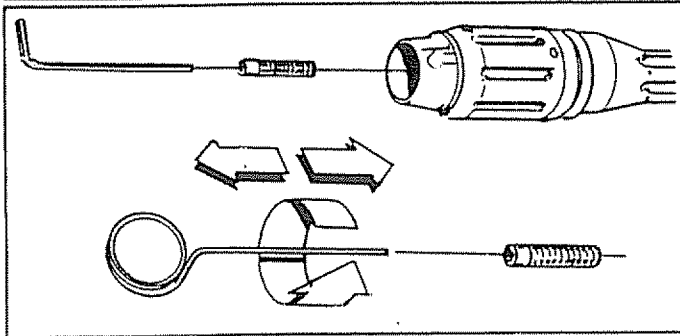

FIG. 26
- Use the wire included in the kit (Fig. 26 on Page 17) or a small paper clip to free the foreign materials clogging or restricting the nozzle.